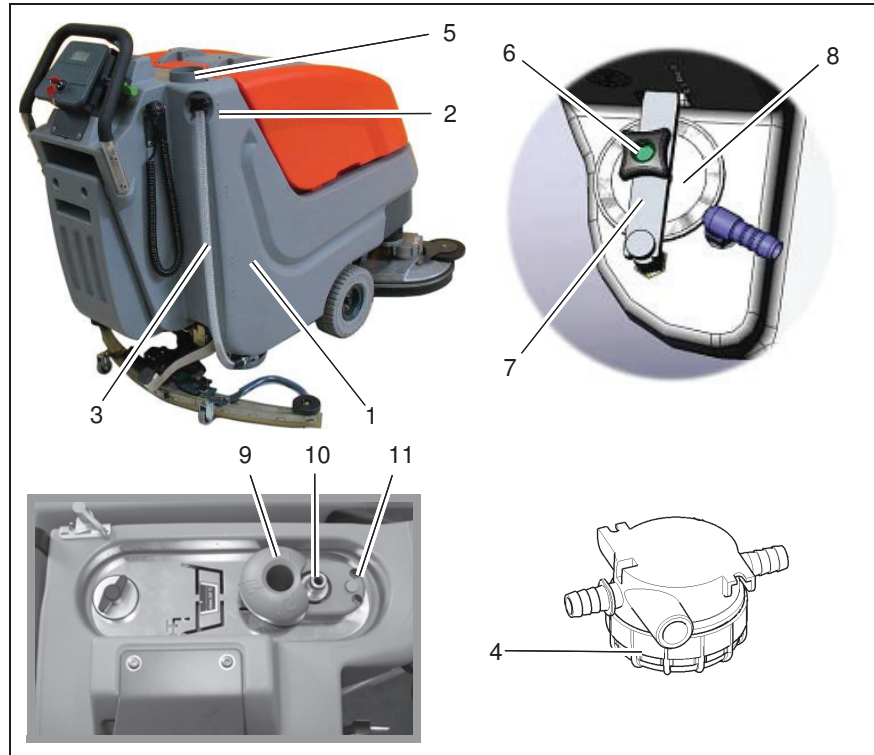

Fig.7
Fill fresh water tank (Fig. 7/1) before work or as required. Park vehicle on level ground. Open tank lid (Fig. 7/5) and fill tank with fresh water up to the maximum (1/1 marker) (Fig. 7/2).
Park vehicle such that the fill level hose (Fig. 7/3) is located above the drain aperture in the floor. Take fill level hose from holder and remove lid.
To open the maintenance hole, loosen the wing bolt (Fig. 7/6), remove the clamping plate (Fig. 7/7) (push upwards and pull out downwards at an angle) and remove the lid (Fig. 7/8) together with seal. After cleaning, close the opening in the reverse working sequence. Check the condition of the seal / sealing surface beforehand. If necessary, replace the seal / clean the sealing surface. Only tighten the wing bolt by hand.
Check fresh water filter (Fig. 7/4) at weekly intervals and clean or replace if required.
1. Empty fresh water tank (Fig. 7/1) , see paragraph 5.5.2.
1. Plug on the water connection (Fig. 7/10). Do not open the water supply line at this point!
2. Press the operating button (Fig. 7/9). The indicator knob (Fig. 7/11) projects.
4. The filling unit switches off automatically when the tank is full. The indicator knob (Fig. 7/11) no longer
The machine can also be filled manually through the hole in the operating button (Fig. 7/9). The transparent hose on the machine serves as a fill level indicator.